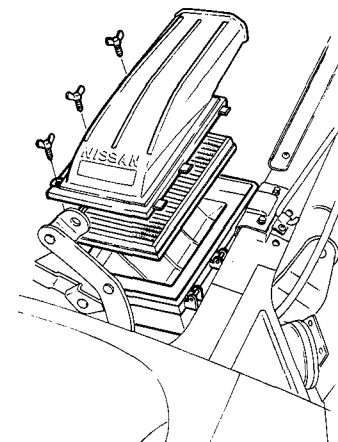

Fig. ET-25 Air cleaner element
1. Check for continuity between A and B when car is brought to a complete stop. Refer to Figure ET-25.
2. Check for presence of voltage across A and B [at a speed of more than 16 km/h* (10 MPH)]. Refer to Figure ET-25.
2. With inhibitor switch "ON" ("N" or "P" range), check for presence of voltage across A and B. Refer to Figure ET-25.
("1", "2", "D" or "R" range), check for resistance between A and B. Refer to Figure ET-25.